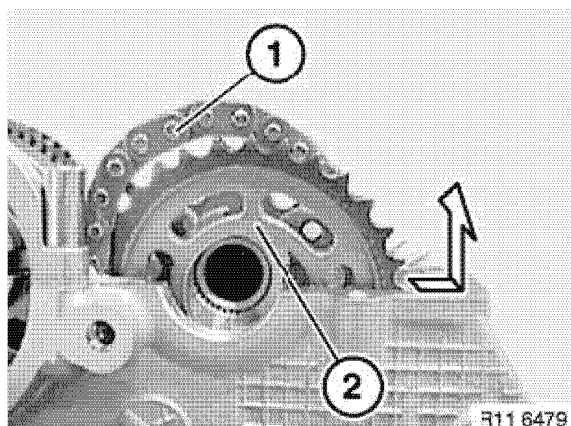

Figure 5-99
- Remove camshaft sprocket (2, **Figure 5-99**) from chain (1, **Figure 5-99**) as shown by arrow.